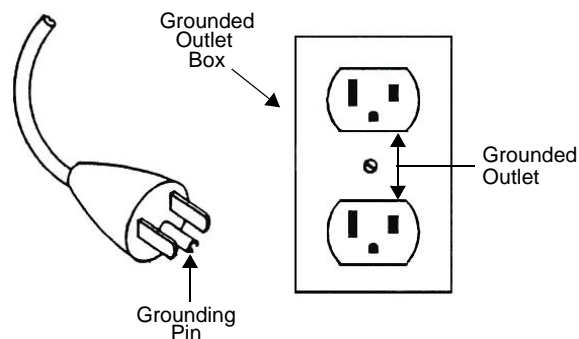

Figure 3 Grounding Plug and Outlet
- When this product is configured for use on a nominal 120 V circuit, it must be used with a grounding plug that looks like the plug illustrated in Figure 3.*